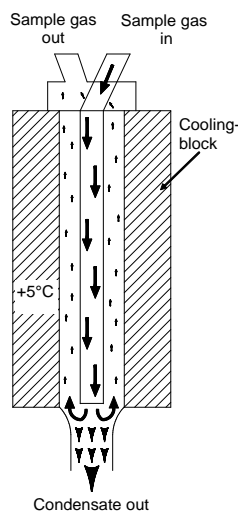

Figure 3 Schematic diagram of functioning of heat exchanger
The patented **M&C EC30/(FD)** gas cooler is a combined two stage compressor Peltier cooler with status alarm capability. Automatic defrosting of the double-construction low temperature stage ensures 100% availability of the cooler. The pre-cooling stage ③ (see fig. 1) of the cooler is equipped with a jet stream **EC** heat exchanger made of Duran glass. Figure 3 shows a schematic diagram of the functioning of the heat exchanger.